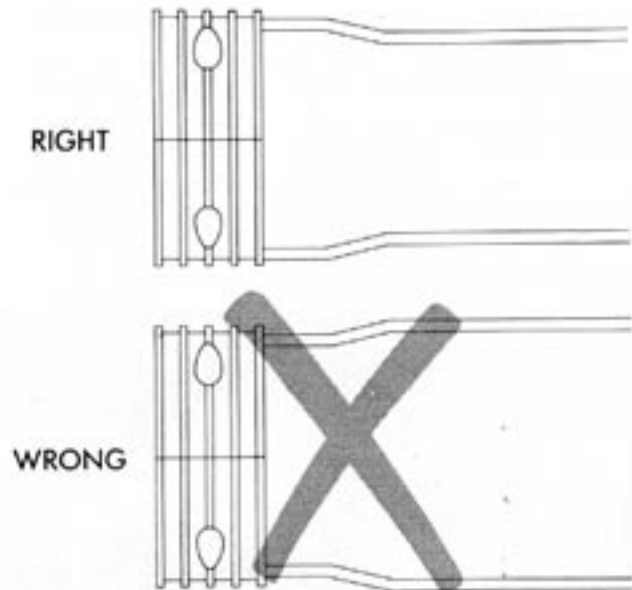
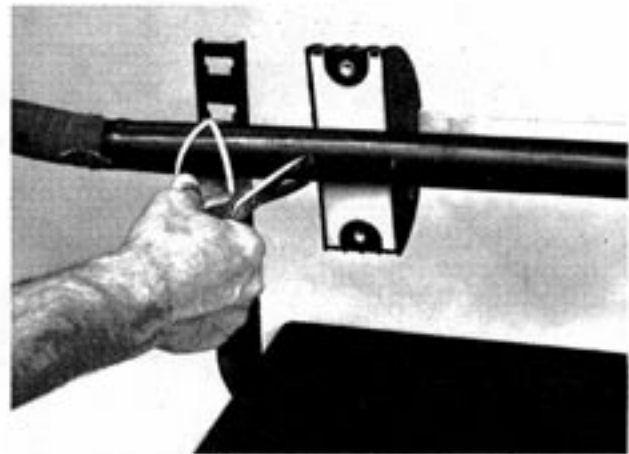

Figure 15 — Torque Bar Placement
Figure 15a — Marking Sheath Area To Be Cleaned
- 7.02 Select End Plate halves with threaded bolt holes in the metal reinforcing collar. Bolt these halves to a torque bar. The offset in the torque bar should face the splice bundle. (Figure 15) Use this assembly to mark area to be cleaned, scuffed, and the cable opening. (Figure 15a).